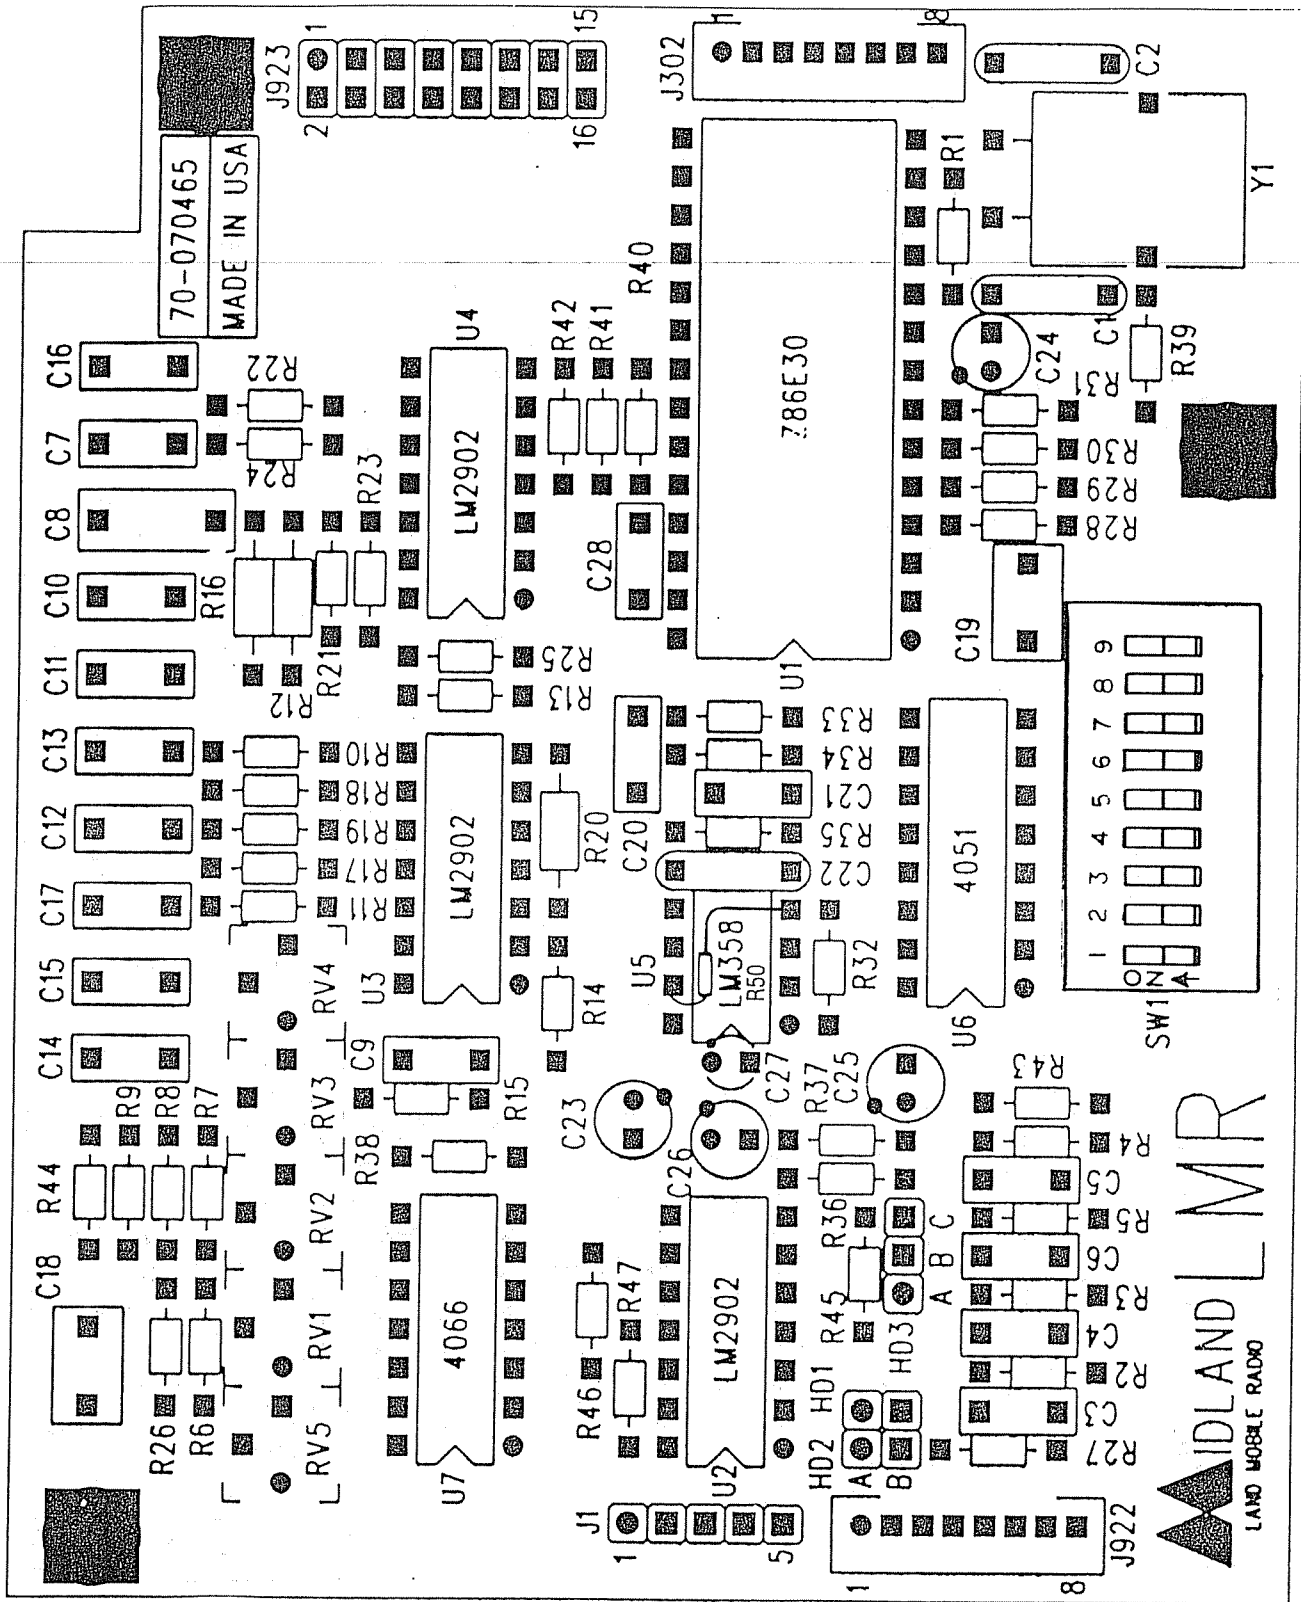

Figure 4
3. Preset RV-1, 2, 3, 4 and 5 to mid-position as shown in **Figure 4**.